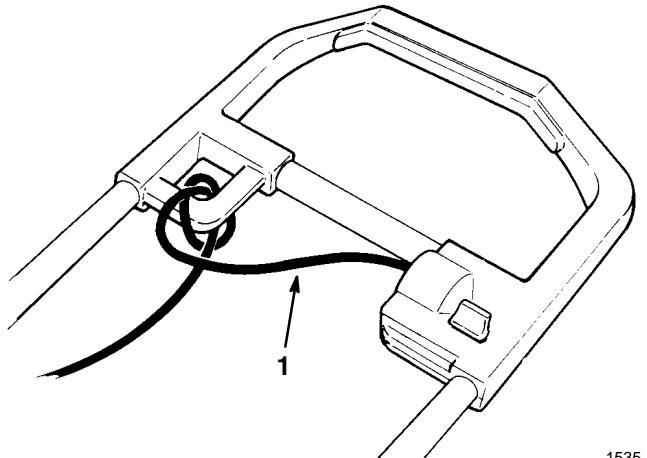

Figure 6
- Before connecting the extension cord to the snowthrower, tie the extension cord to the loop in the handle as shown in Figure 6. This helps to prevent the extension cord from pulling out of the snowthrower during operation.